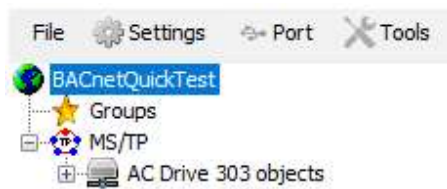
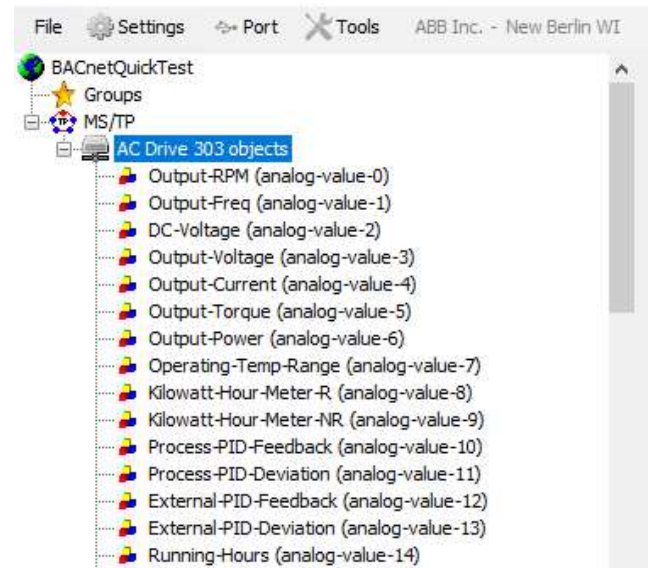
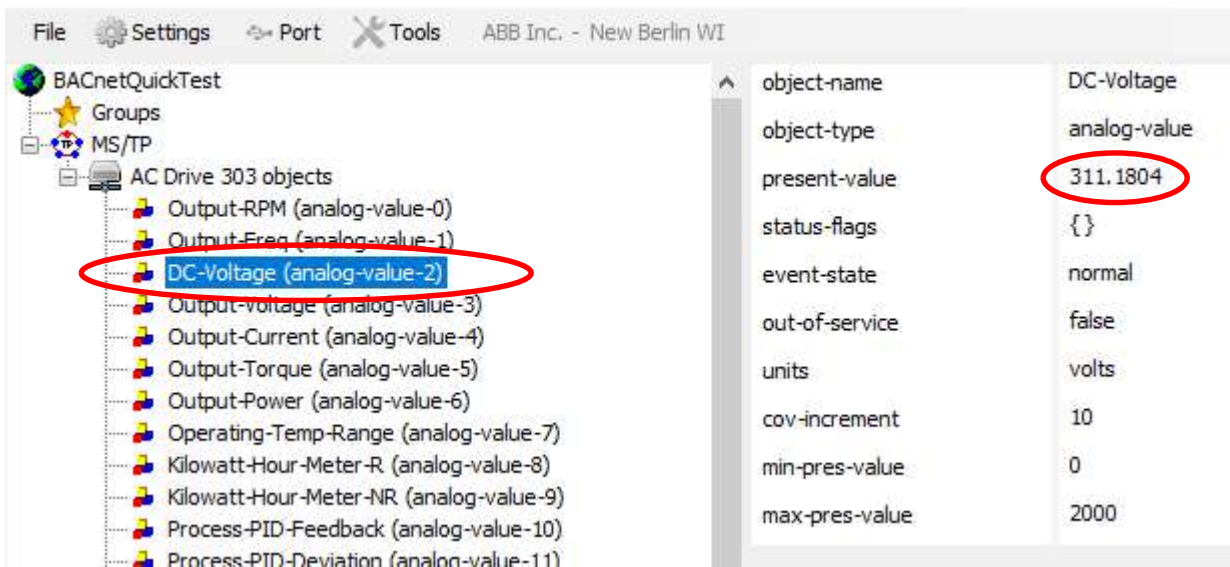

Figure C3
Figure C4
Figure C5
Steps 8 - 9 references Figure C3, Figure C4, and Figure C5.
8. The BQT program may automatically detect the VFD, if it does not select *Tools -> Restart Device Discovery*. In the below example Figure C3 shows the drives Instance ID number is 303. At this point you can say the VFD is discoverable and the EFB port on the ACH580 drive works.
9. BQT does allow you to easily see all the VFDs objects if the list is expanded as show in Figure C4. Note that it may take approximately a minute for all the drive objects to be populated. Select for *DC-Voltage (analog-value-2)*, and in the right window it will show under *present-value* the actual drive's DC bus voltage, see Figure C5, which will match drive parameter 01.11.